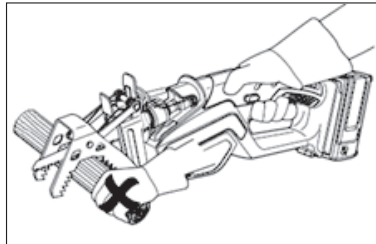

Fig. 16
2. Do not hold the workpiece by hand but use suitable clamps to secure it if required (Fig. 16).